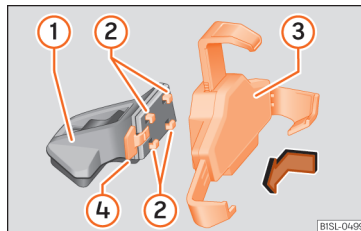
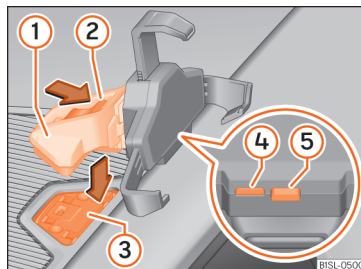

Fig. 133 Assembling the universal support and the holding arm.
Fig. 134 On the centre console: close the compartment where the infotainment system is housed.
- Press the release button »» Fig. 134 ⑤ until the top arm of the universal holder disengages.
- Place the smartphone on the bottom mountings. To adjust the bottom mountings, press button »» Fig. 134 ④.
- Grip the universal holder »» Fig. 133 ③ and press the release button »» Fig. 133 ④.
- Grip the holder arm and »» Fig. 134 ① and press the release button »» Fig. 134 ④ in the direction of the arrow.
- Insert the universal holder »» Fig. 133 ③ into the slots ② on the holder ①.
- Move the universal holder to the side in the locking direction ④ until it engages audibly »» ⚠.
- Place the holder arm »» Fig. 134 ① in the anchoring plate »» Fig. 134 ③ from above and press down on it until you hear it engage »» ⚠.